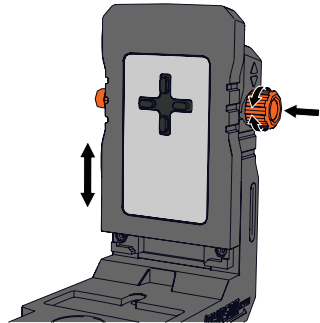

Figure 16
3. To make micro adjustments to the vertical position of the laser, push the micro-adjust knob on the base accessory in to unlock it. Rotate the knob to raise or lower the attachment plate. The position can be adjusted from 1/32" to 1". Release the knob to lock the position. (Figure 16)